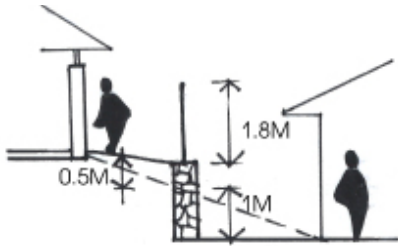

Figure 7
- In rear private yards (other than those visible from public areas such as reserves) combined retaining walls may be increased to a maximum height of 1.5 metres (subject to the agreement of both neighbours) - see figure 7 sketch.